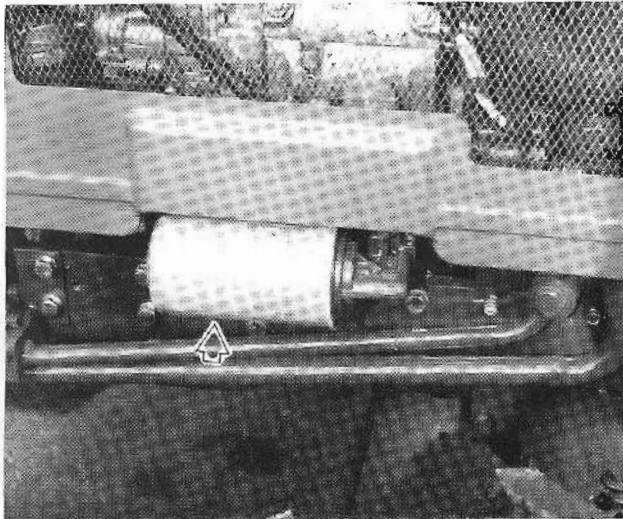

Figure 37 — Engine Oil Filter
2. Unscrew the oil filter, Figure 37, catching the used oil in a suitable container placed below the filter. Discard the filter.